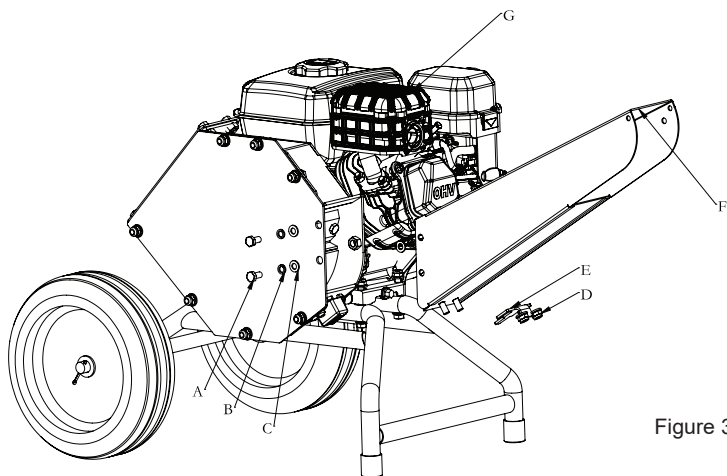

Figure 3
3. Attaching the discharge chute (See Figure 3)
- a. Attach the discharge chute (F) to the blade housing with three flat washers (C), three elastic washers (B), and three M8*16 bolts (A).
- b. Insert the safety key (E) into the slot of the switch box.
- c. Secure the safety key with the two flange M8 nuts (D).